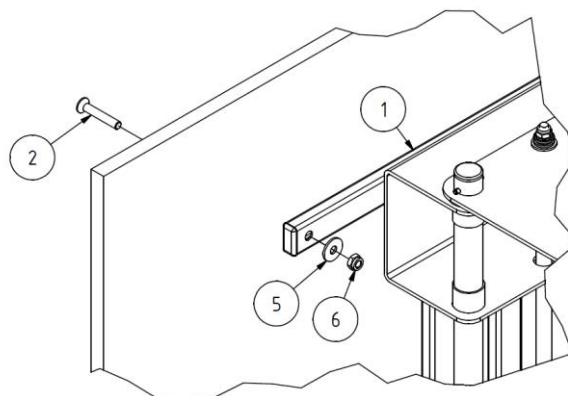

Figure 6: Attaching the backboard
Insert the socket-head countersunk bolts (2) through the four outer holes in the backboard (from the front) and then through the holes in the wall mount, as shown in figure 6. Tighten the bolts using the washers (5), lock nuts (6), an SW 17 spanner and a 6 mm Allen key.